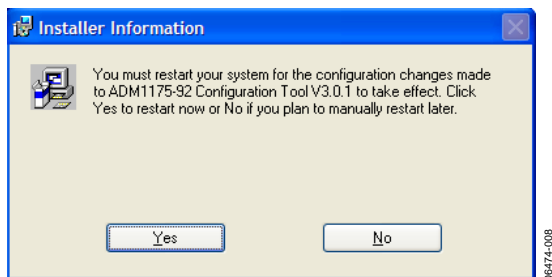

Figure 8. Installation Restart Reminder
8. Click **Finish**. The **Installer Information** window appears indicating that you should restart the system for the configuration changes to take effect (see Figure 8). It is advised to restart your PC before launching the software. Click **Yes** to restart the PC or click **No** to manually restart later.